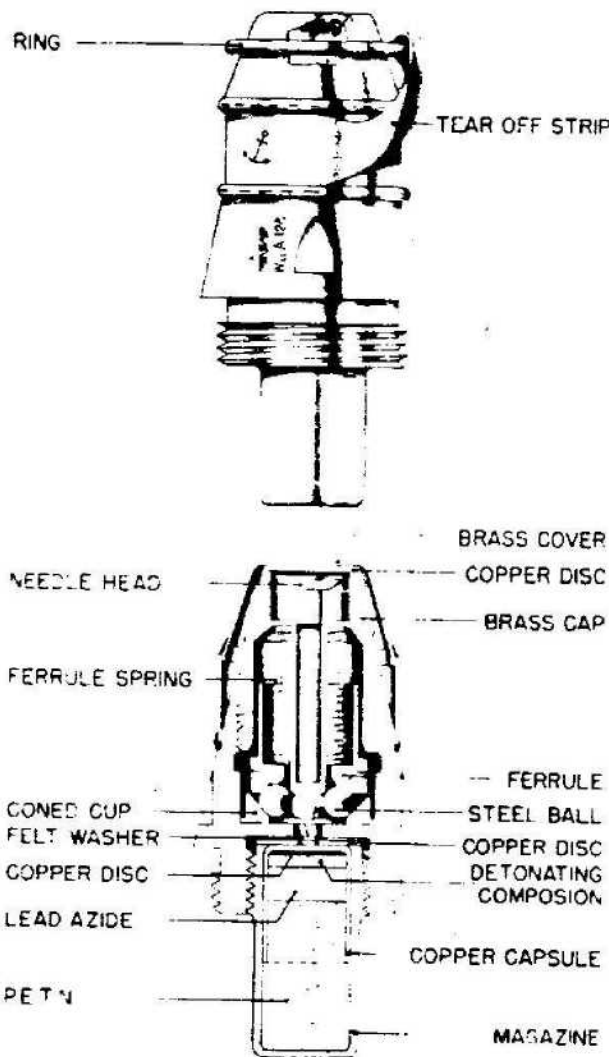

Figure 572—Fuze for 4.7-cm Pak. Spgr.
**EMPLOYMENT:** Used in 4.7-cm H. E. Shell (4.7-cm Pak. Spgr.). (See fig. 572.)